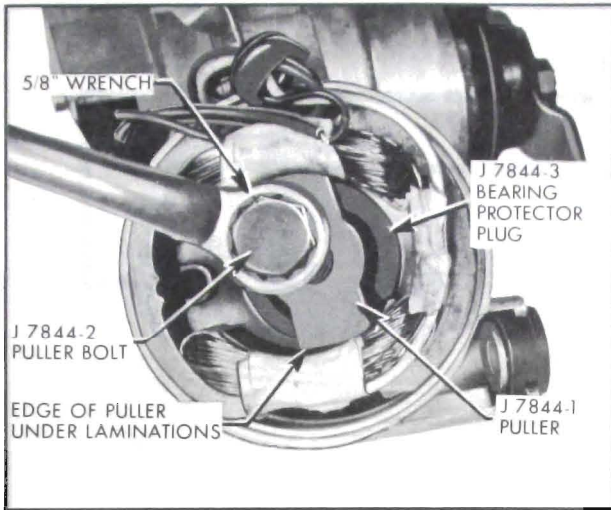

Figure 1-27—Removing Field Coils
d. Refer to Figure 1-27 and remove field from housing as shown.